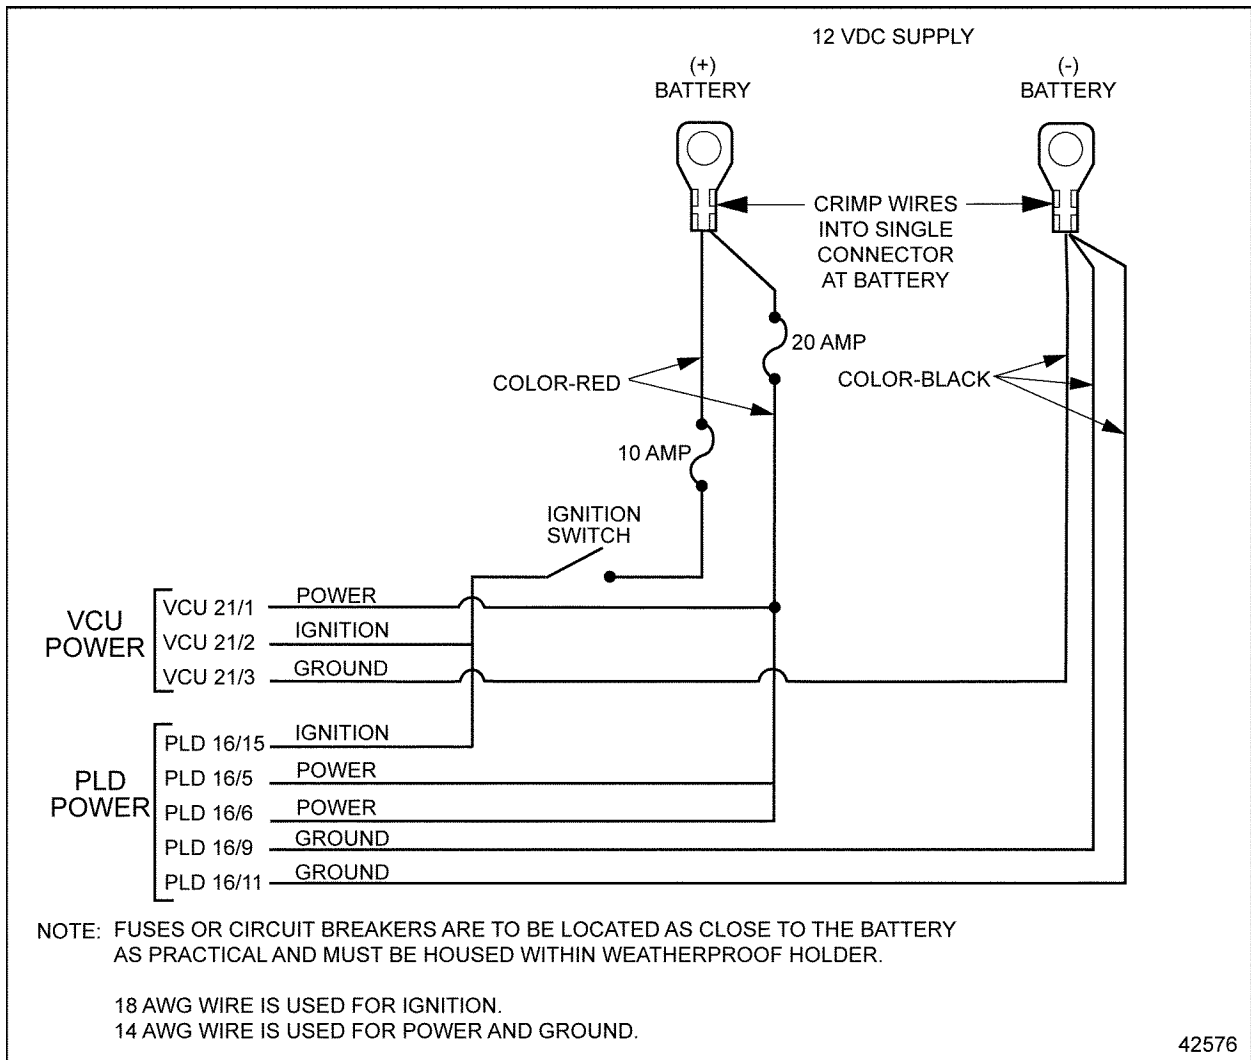

Figure 13-2 Power Wiring
2. Measure the voltage across the battery terminals. See Figure 13-2.
4. Measure the voltage between pins 2 and 3 of the 21-pin connector. See Figure 13-2.